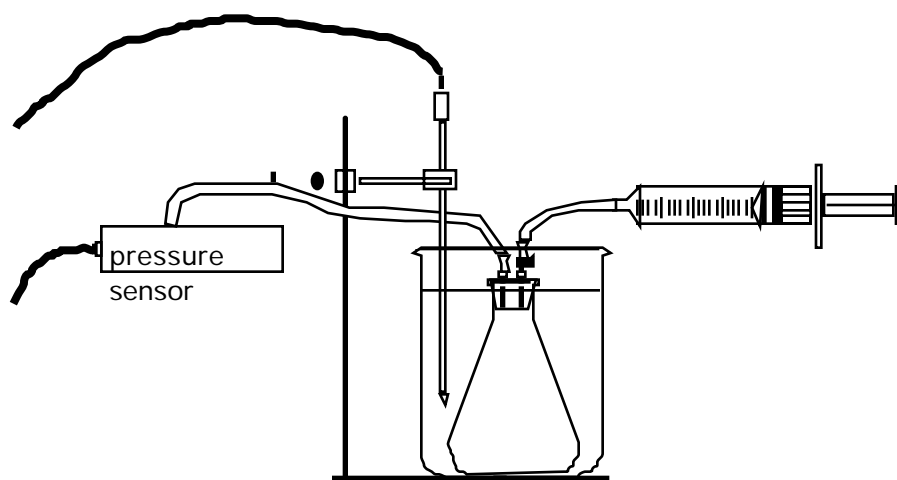

Figure 1
- attach the pressure sensor box to the connector without the valve.(see figure 1)
- expel all air from the syringe, follow the directions that are enclosed with the pressure sensor to be certain the valve is closed to the flask, then attach the syringe to that valve.(see figure 1)